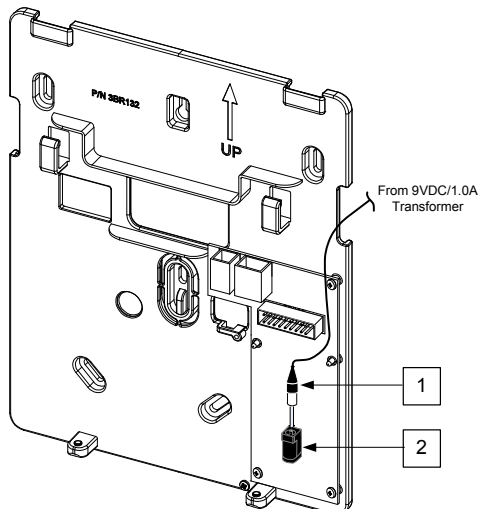

Figure 6A: Connecting DC Power Cable
2. Connect the transformer power jack to the power supply located on the power supply card (1, Figure 6A).